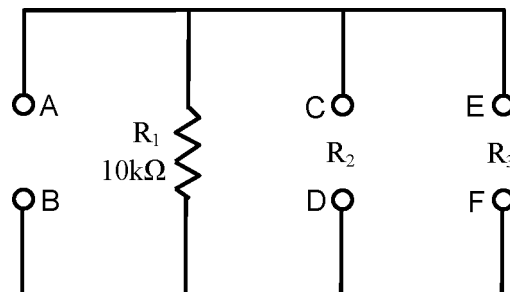

Figure 15-1
1. Connect the circuit as shown in Figure 15-1.